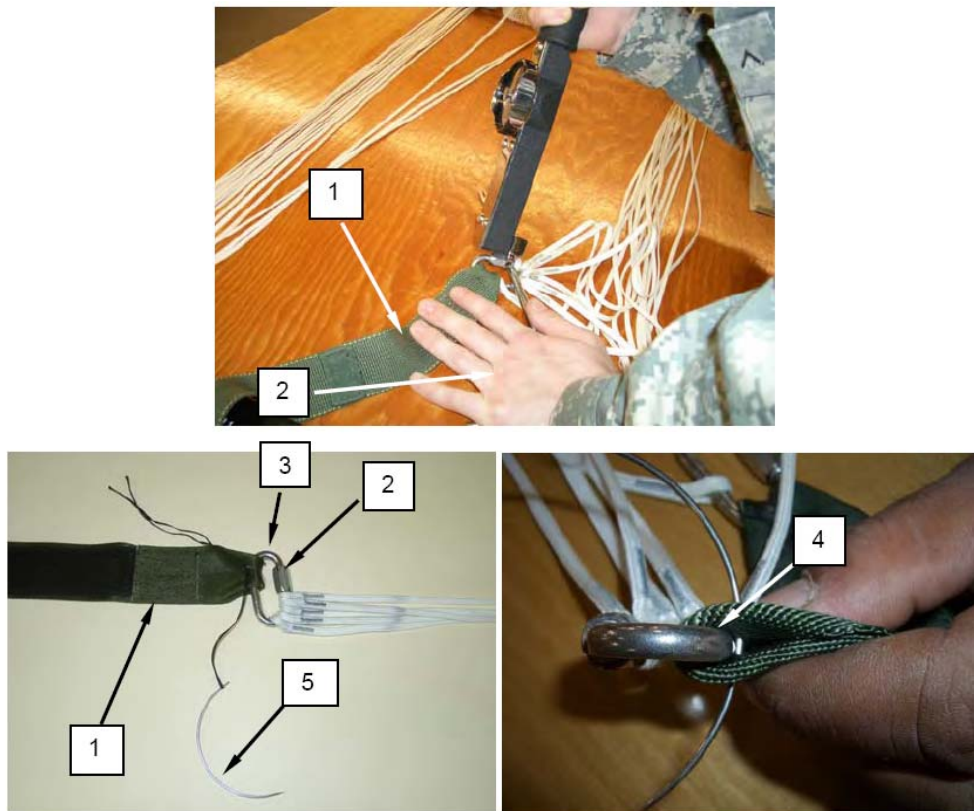

Figure 60. Securing Connector Link to Risers.
2. Finger-tighten the connector links clockwise. Using a torque wrench with the crowfoot adapter and socket wrench, tighten barrel nuts (Figure 60, Item 3) on connector link (Figure 60, Item 2) to 50 inch-pounds.
12. Using a torque wrench with crowfoot adapter, tighten barrel nut (Figure 60, Item 2) on connector link (Figure 60, Item 3) to 50 inch-pounds.
15. Hand tack (Figure 60, Item 4) each riser at connector link (Figure 60, Item 2) with one turn, double lacing and tying tape.
16. Tack each riser (Figure 60, Item 1) with a 12-inch length of lacing and tying tape, one turn double (Figure 60, Item 4). Pass the tacking needle (Figure 60, Item 5) tight against the body of the connector link (Figure 60, Item 3) with square knot toward top when tied.